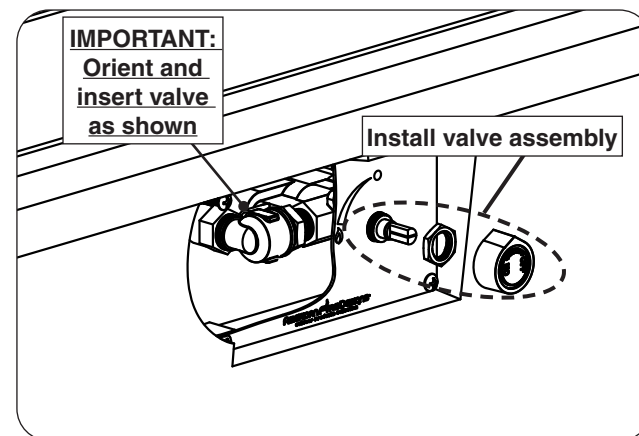

Fig. 28-3 Install valve assembly
5. Insert the valve assembly through the plate (in the base). Replace the nut onto the valve stem, and tighten. Reinstall the control knob. See Fig. 28-3.